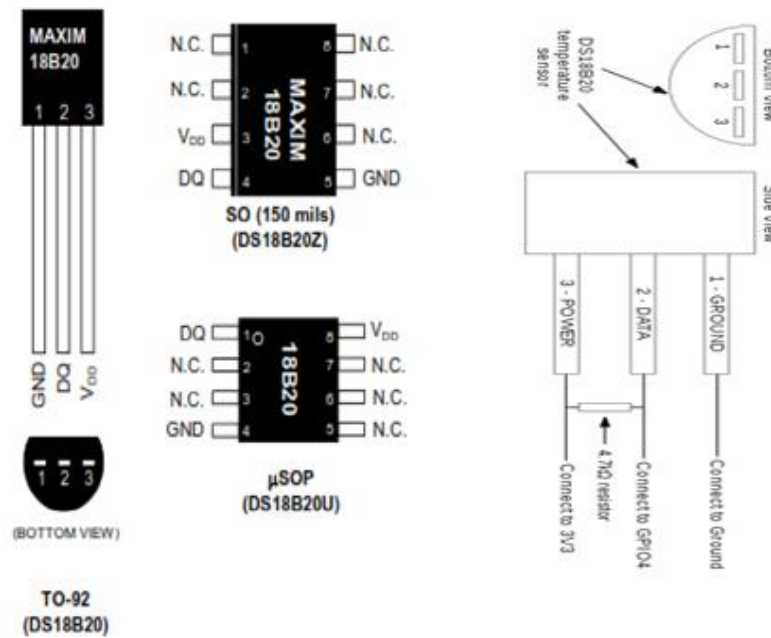

Fig. 3: The pin details, variants of DS18B20[4]
DS18B20 [9] is a Programmable Resolution 1-Wire Digital Temperature sensor in which all data is dispatched down in one wire, making it useful for microcontrollers such as the Raspberry Pi, as it merely needs one GPIO pin for sensing. In addition to this, most 1-Wire sensors will come with an exceptional serial program that can link several constituents in to one microcontroller. Since the Raspberry Pi has no ADC (Analog to Digital Converter), the digital temperature sensor DS18B20 is a good choice for Temperature sensing. The DS18B20+ has a layout similar to that of transistor TO-92 package, with three pins: GND, Data (DQ), and VDD. The features of DS18B20 are Power Supply ranging from 3.0V to 5.5V, Temperatures measuring range from -55°C to +125°C (-67°F to +257°F) with  $\pm 0.5^\circ$  and unique 1-Wire interface. Most important feature is that it requires no external components. Figure 3 shows the pin details, variants of DS18B20